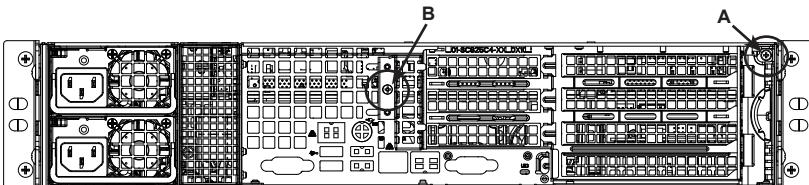

Figure 5-17. Removing the Retention Bracket (WIO Chassis Shown)
5. Remove the screw and the retention bracket securing the right side of the full height PCI slot covers (A) (see Figure 5-17). For UIO chassis (not shown), rotate the latch instead. Once the retention bracket or latch is loose, remove the chassis L-bracket access from the inside of the chassis, see Figure 5-17.
6. Remove the screw and the retention bracket securing the left side of the PCI slot low profile covers (B), see Figure 5-17 for WIO chassis. For UIO chassis (not shown), rotate the latch instead. Once the retention bracket or latch is loosen, remove the chassis L-bracket access from inside of the chassis, see Figure 5-18.